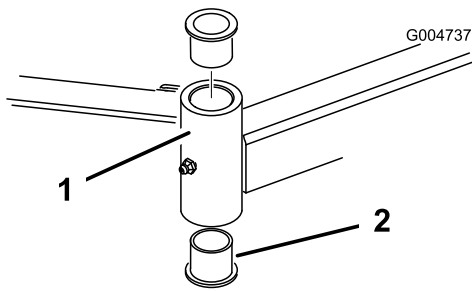

Figure 31
4. Insert a pin punch into the top or bottom of the mounting tube and drive the bushing out of the tube (Figure 31). Also, drive the other bushing out of the tube. Clean the inside of the tubes to remove dirt.